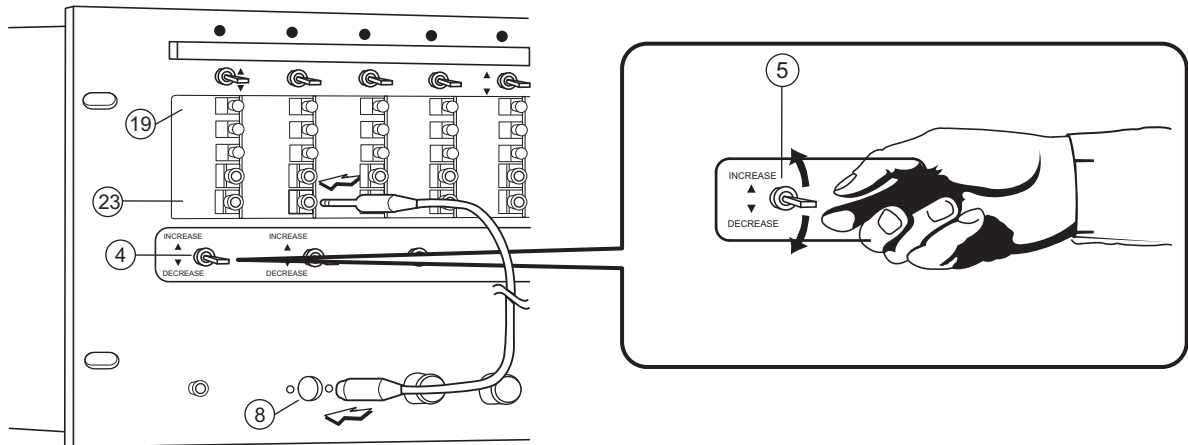

Fig. 17 Setting the alarm time delay
- a. Connect the second test cable with a 3.5mm stereo plug on one end and a 3-pin din plug on the other (supplied) between the **Alarm Delay Output jack[23]** and the **Alarm Delay Input Jack[8]**. See Fig. 17 above. Plug the 3.5 mm plug to the **Alarm Delay Output Jack[23]** of zone 1 module (first from the left).